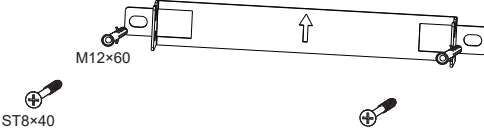

Fig. 2.2 Wall mounted bracket
- Confirm that the installation hole position is correctly marked, the support is horizontal, punch holes at the marked position, and drive the expansion pipe into the installation hole (see Figure 2.2).